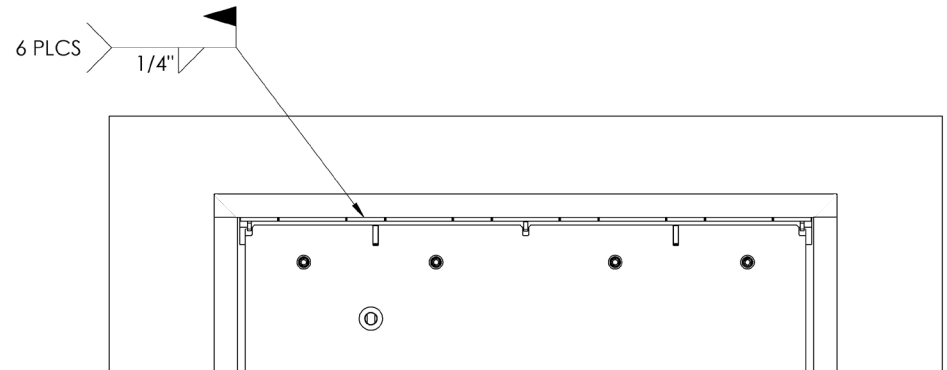
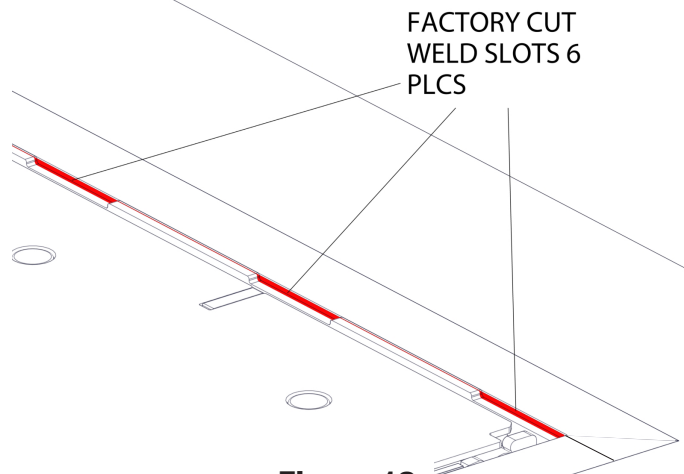

Figure 11
Figure 12
2. Weld leveler to the rear curb angle using the factory cut welding slots, as shown in **Figure 11** and **Figure 12**.